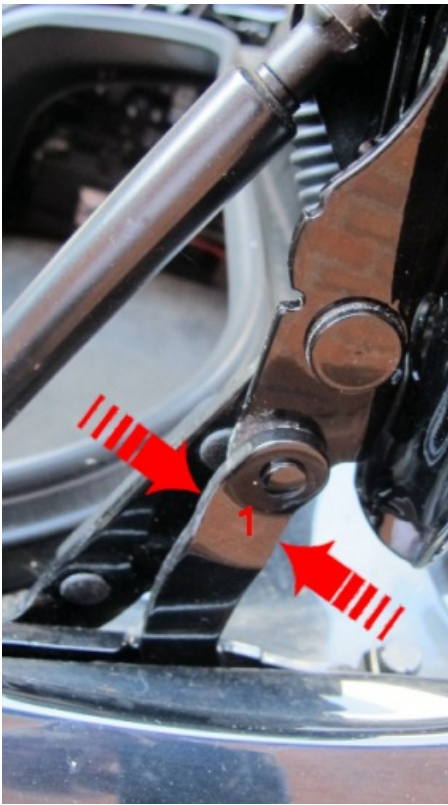

Figure 1a
Prior to performing software update on Continental models ensure the motor driven, right hand, hinge (1) is serviceable, check for excessive play in hinge pivots, manipulate the open hinge manually whilst checking for excessive play. Ensure the hinge function is uncompromised and no misalignment exists in the hinge elements, replace individual driven hinge where necessary (see Figure 1a)